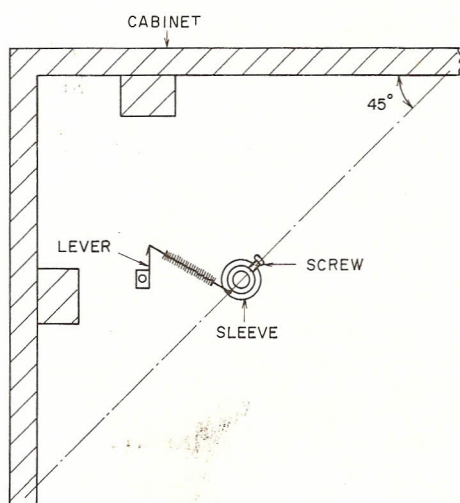

Fig. 13
(Refer to Fig. 13)
- 2) Set the sleeve, located between the PU Plate and the chassis, to approximately 45° position as shown in Fig. 13.